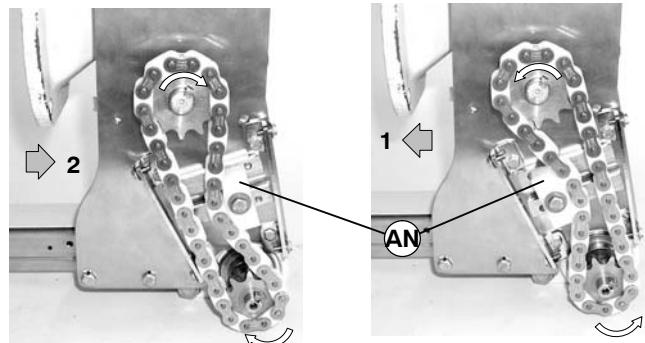

Figure 13
2. Depending on conveyor belt travel (direction 1 or 2 of Figure 13), locate timing chain tensioner (AN) as shown. Do not tighten tensioner screw.
- Loosen four set screws (AM) and (AP).
- Remove timing chain (L) and sprockets (M and Q) from conveyor input shaft and gear reducer output shaft. Make sure to retain sprocket keys.
- Depending on conveyor belt travel (direction 1 or 2 of Figure 13), locate timing chain tensioner (AN) as shown. Do not tighten tensioner screw.